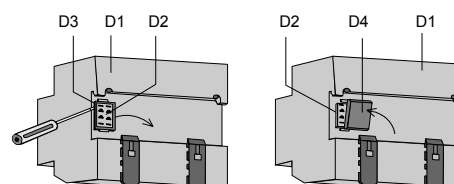

Figure 3: Covering the contacting system
**Removing the guide top (Figure 3)**
**Snapping on the insulation top (Figure 3)**